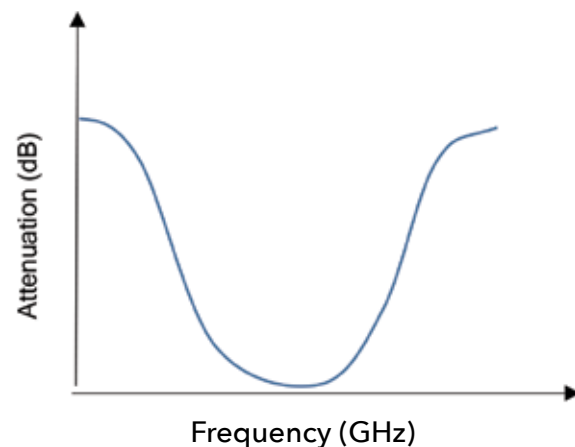

Figure 5: Negative parabolic equalizer
- **Negative Parabolic Equalizers (Figure 5)** exhibit insertion loss that decreases in a parabolic shape as frequency increases, and are used to equalize gain variation in systems that have low gain at the band edges but high gain at mid-band.